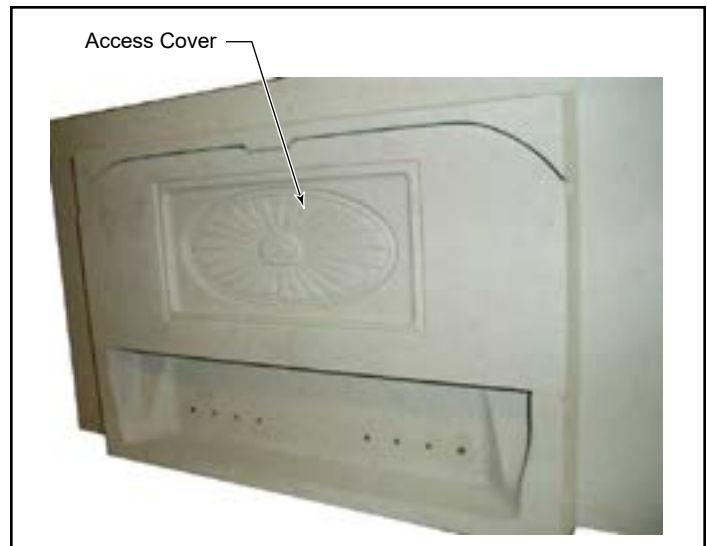

Figure 28 - Remove access cover.
1. Remove the access cover by gently lifting up and pulling out from the bottom edge. (Figure 28)